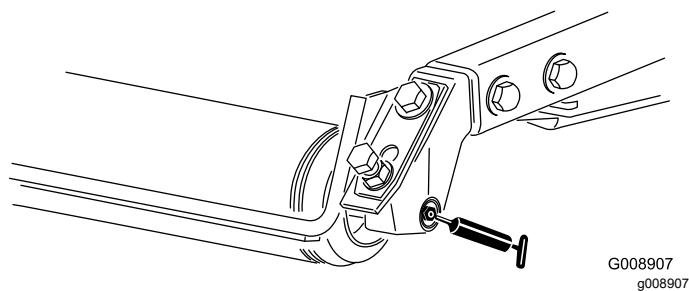

Figure 73
- Rear-roller bearings (2 per cutting unit)—Figure 73